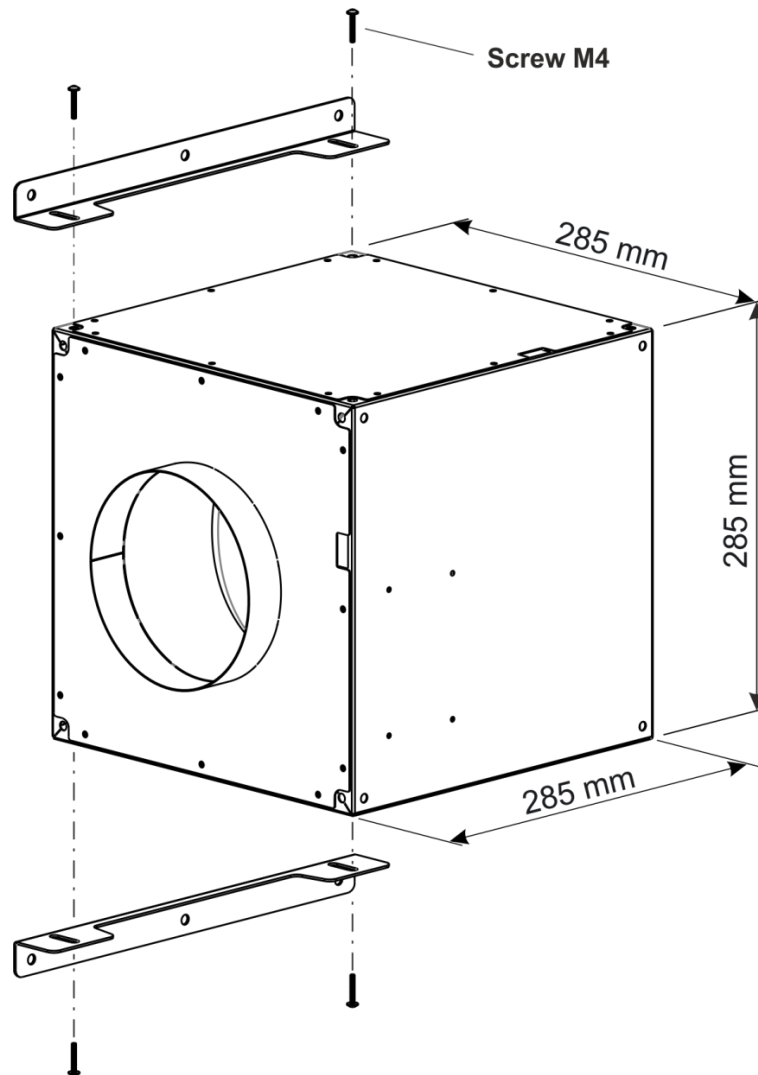

Fig. 3
6.7 Hang the fan housing on the screws at the support points of the mounting brackets (Fig. 3).